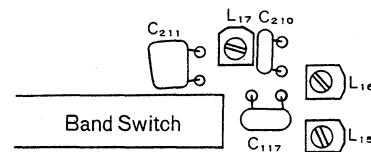

Fig. 25
1. Solder padding capacitors at the position, as shown in fig. 25 according to the following table.